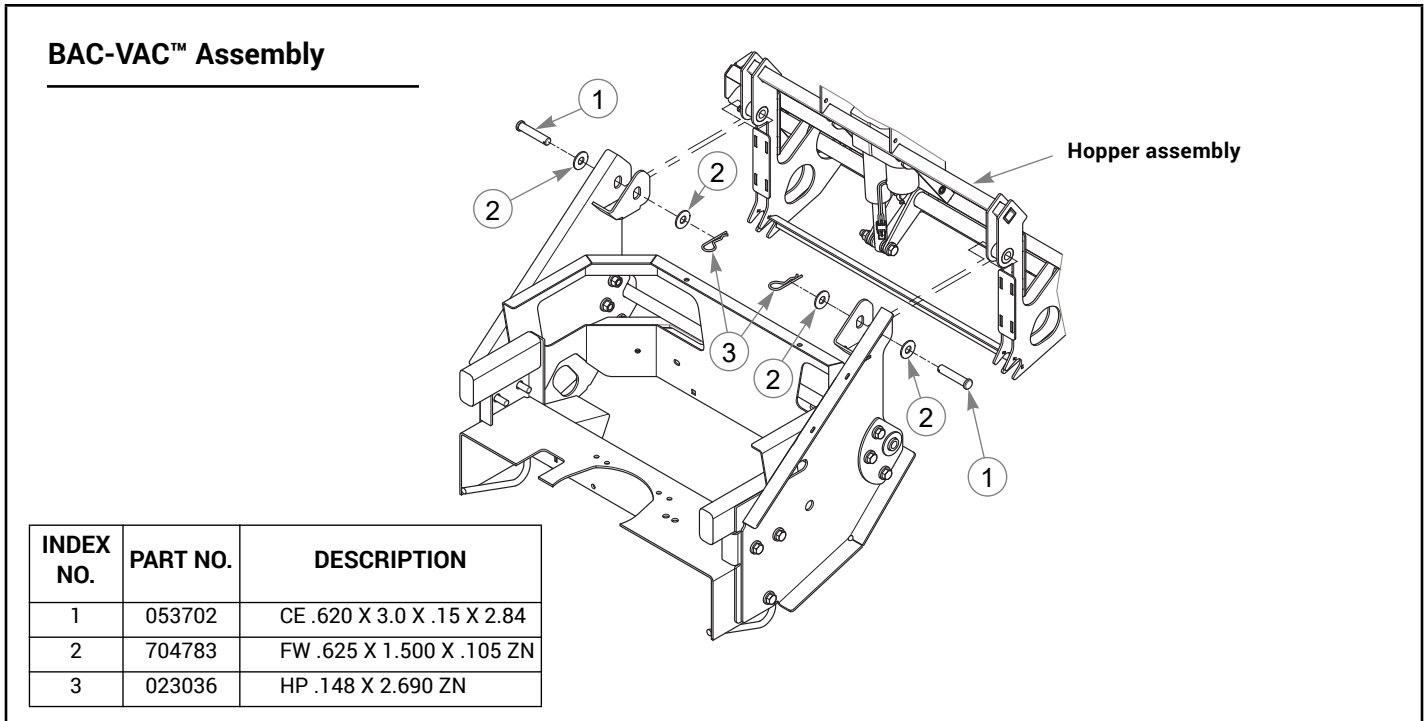

Figure 3-55
1. Roll the BAC-VAC™ to the mower and slide the lower hooks over the rod on the mount tube. Figure 3-55